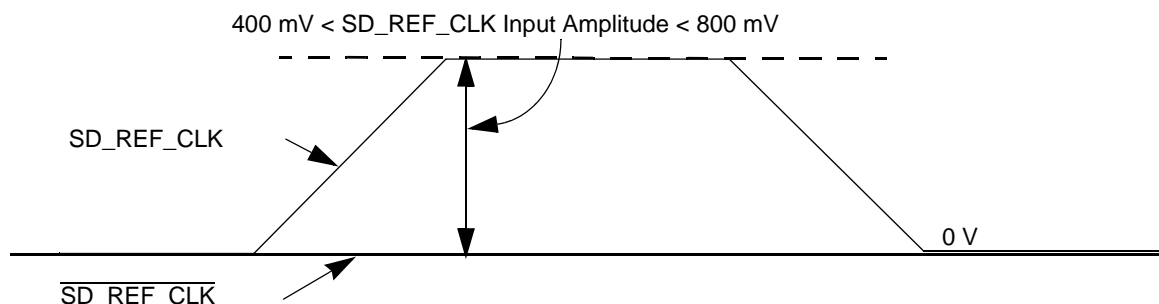

Figure 41. Single-Ended Reference Clock Input DC Requirements
- The SD_REF_CLK input average voltage must be between 200 and 400 mV. Figure 41 shows the SerDes reference clock input requirement for single-ended signaling mode.